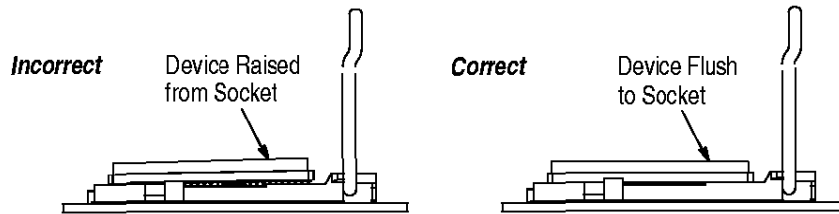

Figure 4
- C. Make sure that the device is flush to the socket. If necessary, apply a slight downward pressure to the device until it is level with the surface of the socket. See Figure 4.